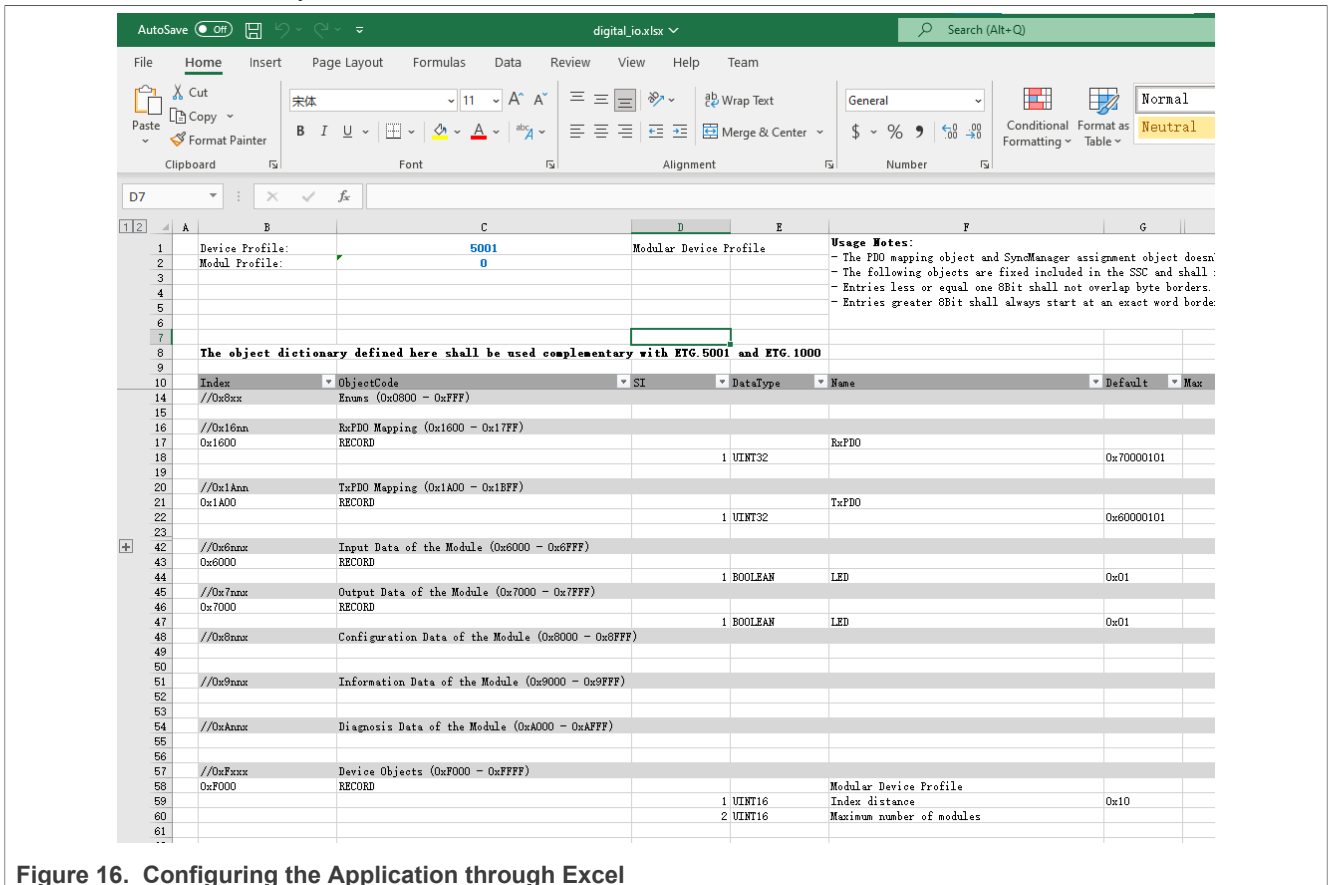

Figure 16. Configuring the Application through Excel
8. The Application file can also be configured through Excel, as shown in Figure 16. SSC Tool generates an XML file automatically based on this Excel file.